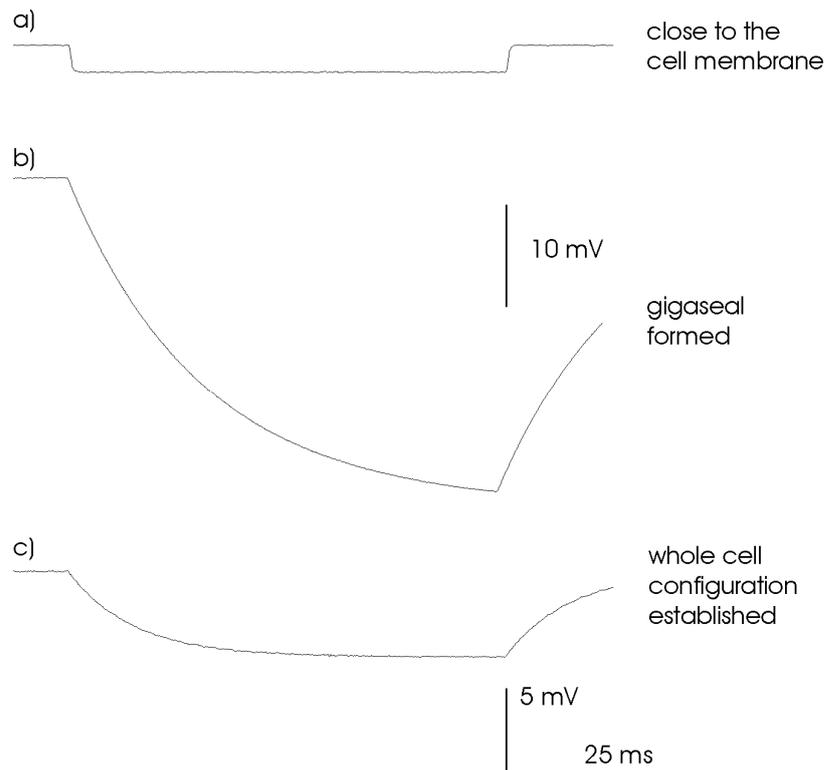

Figure 15: Approaching the cell, forming a gigaseal and establishing the whole cell configuration
- Approach the cell until the voltage signal changes (**a**, Figure 15). Often you can observe a slight dent in the cell membrane.
- If the seal does not form apply gentle suction to the pipette until a gigaseal is established (**b**, Figure 15).
- Apply stronger suction to the pipette or carefully use the BUZZ unit to brake the cell membrane under the pipette and establish the whole cell configuration. The whole cell configuration is established, if you see the voltage signal getting smaller again (**c**, Figure 15) and you read the expected membrane potential.